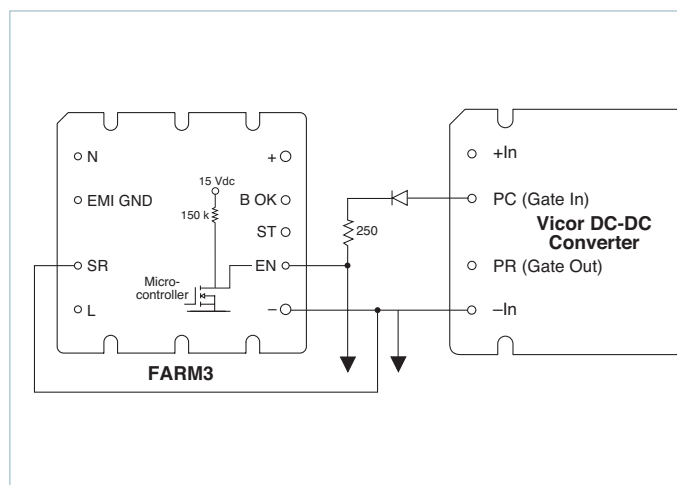

Figure 11 — Enable (EN) function
Enable (EN) Pin: The Enable pin must be connected to the PC or Gate-In pin of all converter modules to disable the converters during power-up. Otherwise, the converters would attempt to start while the hold-up capacitors are being charged through the current limiting thermistor, preventing the bus voltage from reaching the thermistor bypass threshold, thus disabling the power supply. The Enable output (the drain of an N channel MOSFET) is internally pulled up to 15V through a 150k Ω resistor. (see Figure 11)